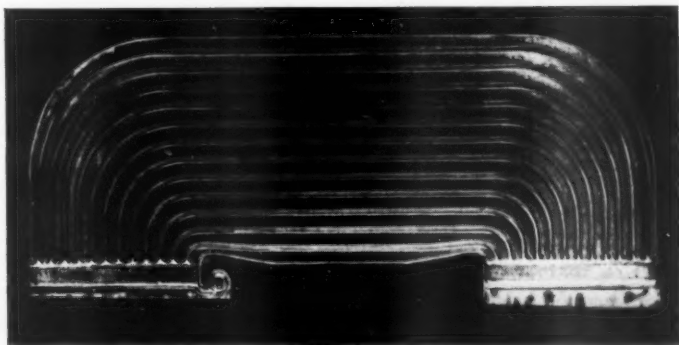

FIG. 9. Pressure welded German heat-exchanger element.
**APPLICATIONS** (a) *German Heat Exchanger Component.* This is the first recorded application of the pressure welding process to light alloy sheet.2 The component is shown in Figs. 9 and 10. The material used was similar to our Al-Mg-Si alloy to DTD346 or AW4, which has been found to have very good hot welding properties. The 0.016 in. thick sheets were prepared by pickling and scratch brushing. After cutting, folding and punching holes for location and the air injection nozzle, the sheets were smeared with a preparation to prevent sticking to the hot tools. The analysis was given earlier in this paper. The application of this preparation was only necessary for every second component, since sufficient of the preparation adhered to the tools.